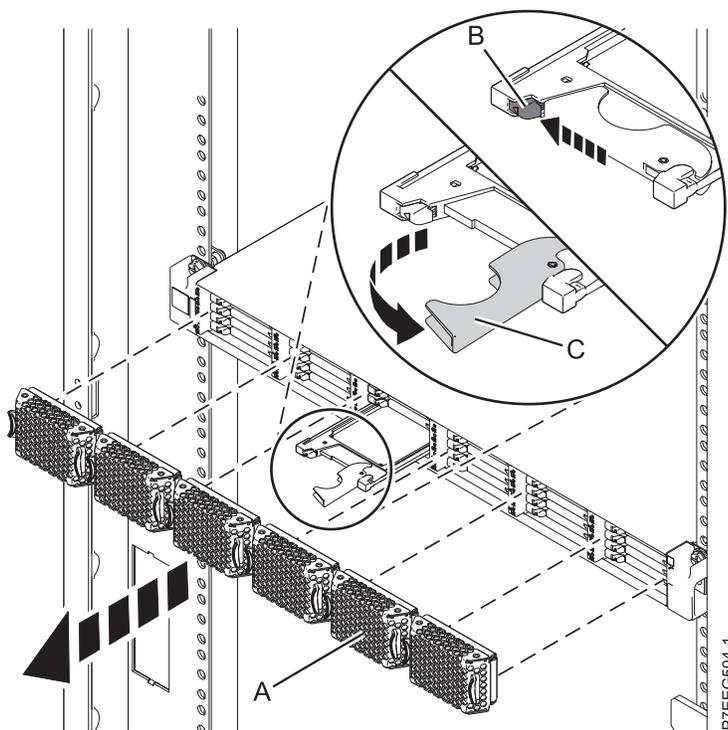

Figure 25. Removing the solid-state drive from the 58/88 PCIe storage enclosure
1. Pull off the bezel (A) that covers the slot that contains the solid-state drive. See Figure 25.
2. Slide the release latch (B) over gently to unlock the drive handle.
3. Grasp the handle (C) and pull the drive partially out of the slot.